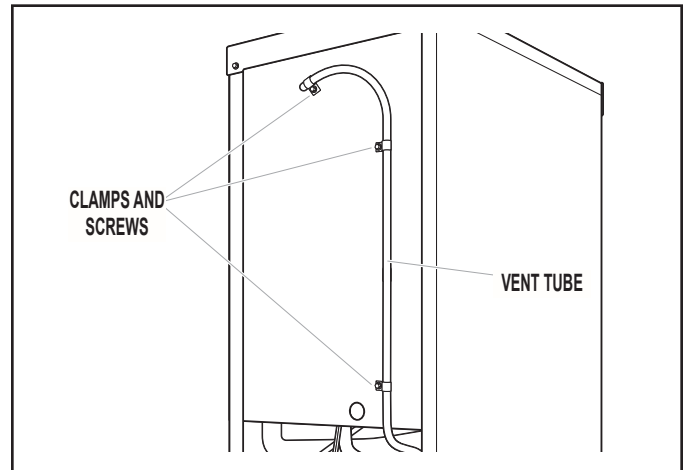

FIGURE 7
13. Secure vent tube to back of ice maker using three (3) clamps and the three (3) remaining screws supplied in kit. See Figure 7.